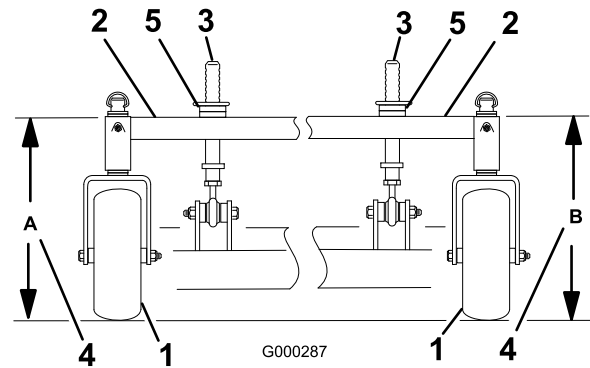

Figure 67
4. Measure carrier frame height at location **A** (Figure 67).
5. Measure carrier frame height at location **B** (Figure 67).